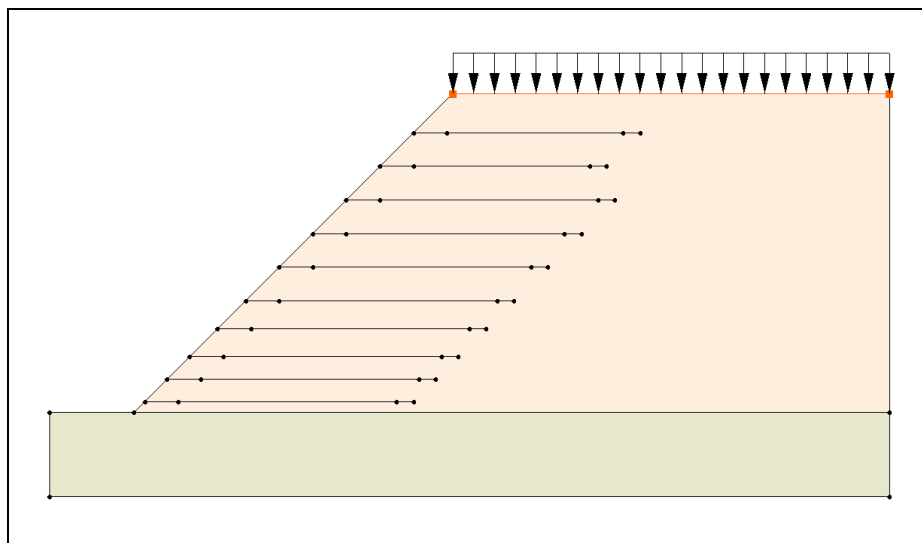

Figure 4. After adding reinforcement lines.
3. Using Figure 4 (below) as a guide, click on the points to connect them with arcs to create the slope.
At this point you should see something like Figure 4 below.